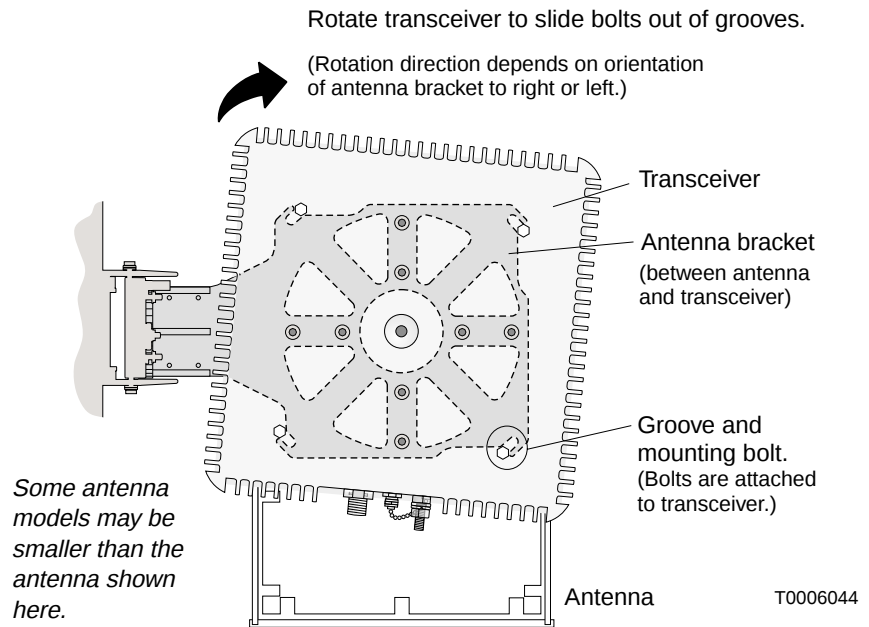

Figure 10-2 Removing the transceiver
- Loosen the four transceiver mounting bolts (shown in figure 10-2).
- Rotate the transceiver until the bolts slide out of the four grooves in the antenna bracket. (The direction of rotation depends on the orientation of the antenna bracket—to the right or left.) If the mounting bolts will not slide into the grooves, loosen the bolts. See figure 10-2.